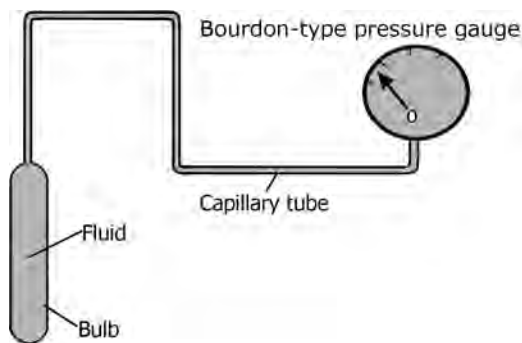

FIGURE 8.6 Vapor pressure thermometer.
- Figure 8.6 illustrates vapor pressure thermometer.